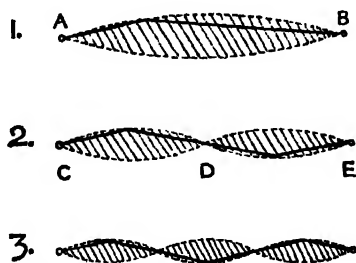

FIG. 236.—Modes of vibration of a stretched string.
The string thus at one time or another covers all the positions of the shaded portion of Fig. 236 (1). If you twang a string, you see a figure like this, which is a blurred impression of all the positions a string takes up. Now the string (the picture in Fig. 235 is made from a violin string sounding B'', which makes 995 vibrations a second)
goes through all its vibrations 995 times a second. How is it then that the string sounds not only the pure B'', but a whole series of fainter and higher notes—the overtones? The reason is that a string can vibrate in more than one way. It can go through all the positions shown in Fig. 236 (1), but it can also go through all the positions in Fig. 236 (2), or Fig. 236 (3). Now, the speed of vibration depends first on the
restoring force, which is the elastic pull of the string (this is the same, however, in whatever way the string is vibrating), and secondly, on the length and weight of the part being pulled back. Now the weight of the string A B is clearly twice that of the part C D; so C D and of course D E vibrate *twice* as fast as A and thus sound the octave. Now, a violin string vibrates in all the ways shown in Fig. 236 *at once* and, to a smaller extent, in several others as well.
three different waves the string is sending out by vibrating in the three different ways shown in Fig. 236. These three waves all combined make up the curve (A), which is the characteristic shape for a violin note. A piano note would show another and different set of humps and valleys.
FIG. 244.—Trumpetsounding *c*, *g*, *c'* (top). The air column vibrates in 2, 3 and 4 portions respectively (*cf.* Fig. 236). At the points *N* the air is still, and at *L*, most strongly vibrating; the distance *LN* in each case is *half* the length of the vibrating column.